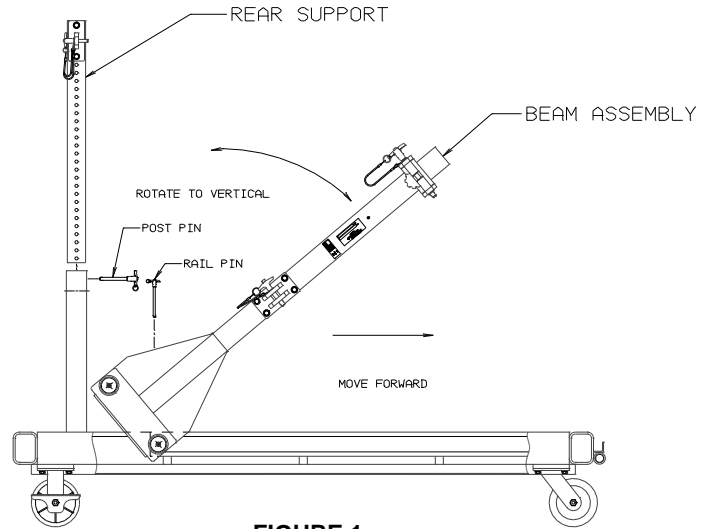

FIGURE 1
3. Rotate main post assembly to allow the lead rollers to lead into the support rails in the base and tilt main post assembly until the main post assembly is in the vertical position. (See **Figure 1**).